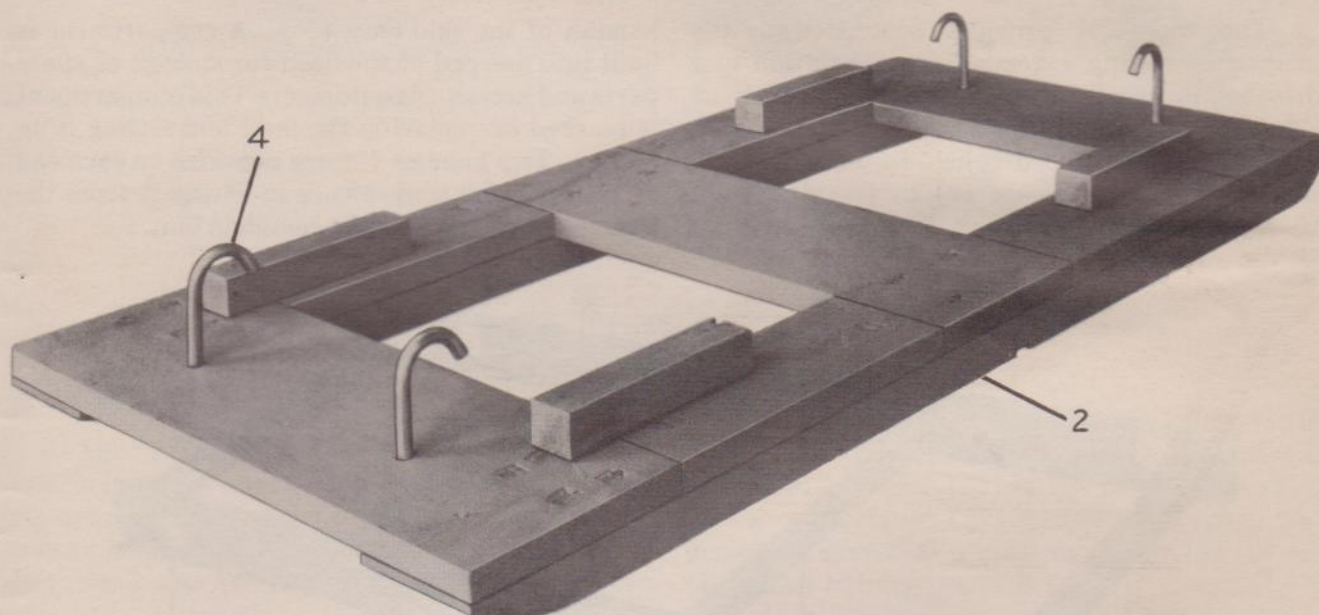
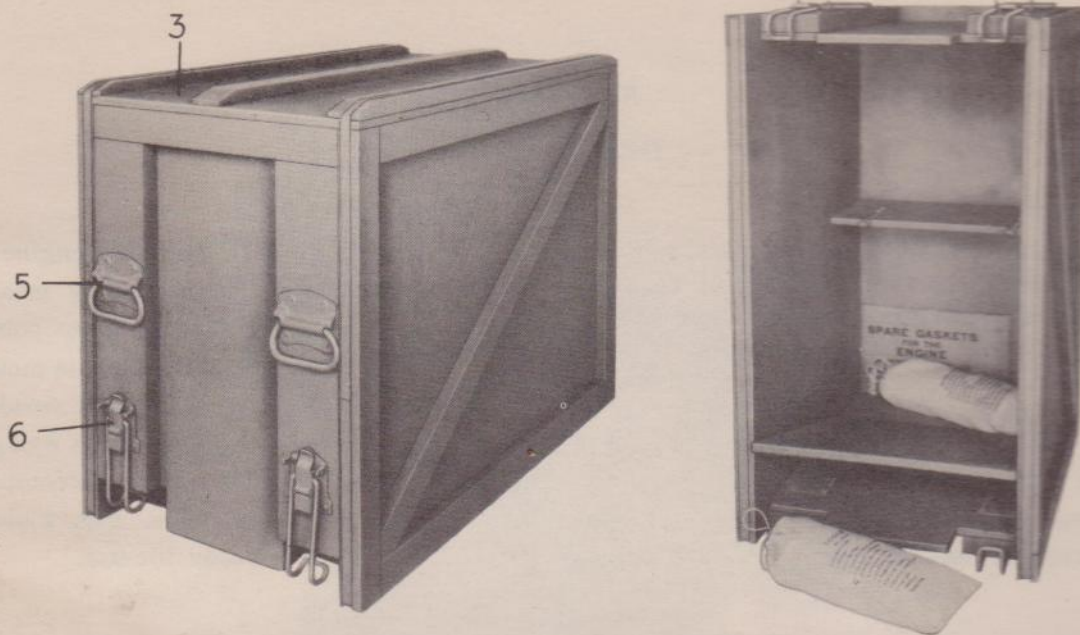

FIG. 2 HOOD BASE WITH "J" BOLTS
FIG. 3 HOOD—EXTERIOR AND INTERIOR SHOWING COMPARTMENT WITH DOOR OPEN
*b.* The complete Power Unit PE-49-F is enclosed within a rugged, removable hood (3) and a sturdy base (2) which also serves as a support for the skid-base (20) of the unit during transportation. See Figs. 2 and 3.
(1) The hood (3) and hood base (2) are both constructed of well seasoned wood fastened together with resin-coated nails that are clinched to insure a permanent assembly.
*c.* To loosen the hood from base, unlatch the four draw bolts (6) by pulling each thumb latch all the way out and down. Lift the hood clear of the power unit.
*d.* Whenever the Power Unit PE-49-F is to be transported a considerable distance by train or truck, the hood (3) must be in place for protection against bad weather and dirt. Weight of the unit including the hood is 300 pounds.
*e.* After removing the hood, the contents of the storage compartment should be checked. This check must be made before leaving the base. The compartment can be readily reached by setting the hood up on end as shown in Fig. 3. It should contain the following items:
(1) There are four "J" bolts (hooks) (4) which hold the skid-base (20) to the hood base (2). See Figs. 2 and 4. These "J" bolts are fastened to the hood base with nuts which can be reached on the under side of each end of the base.